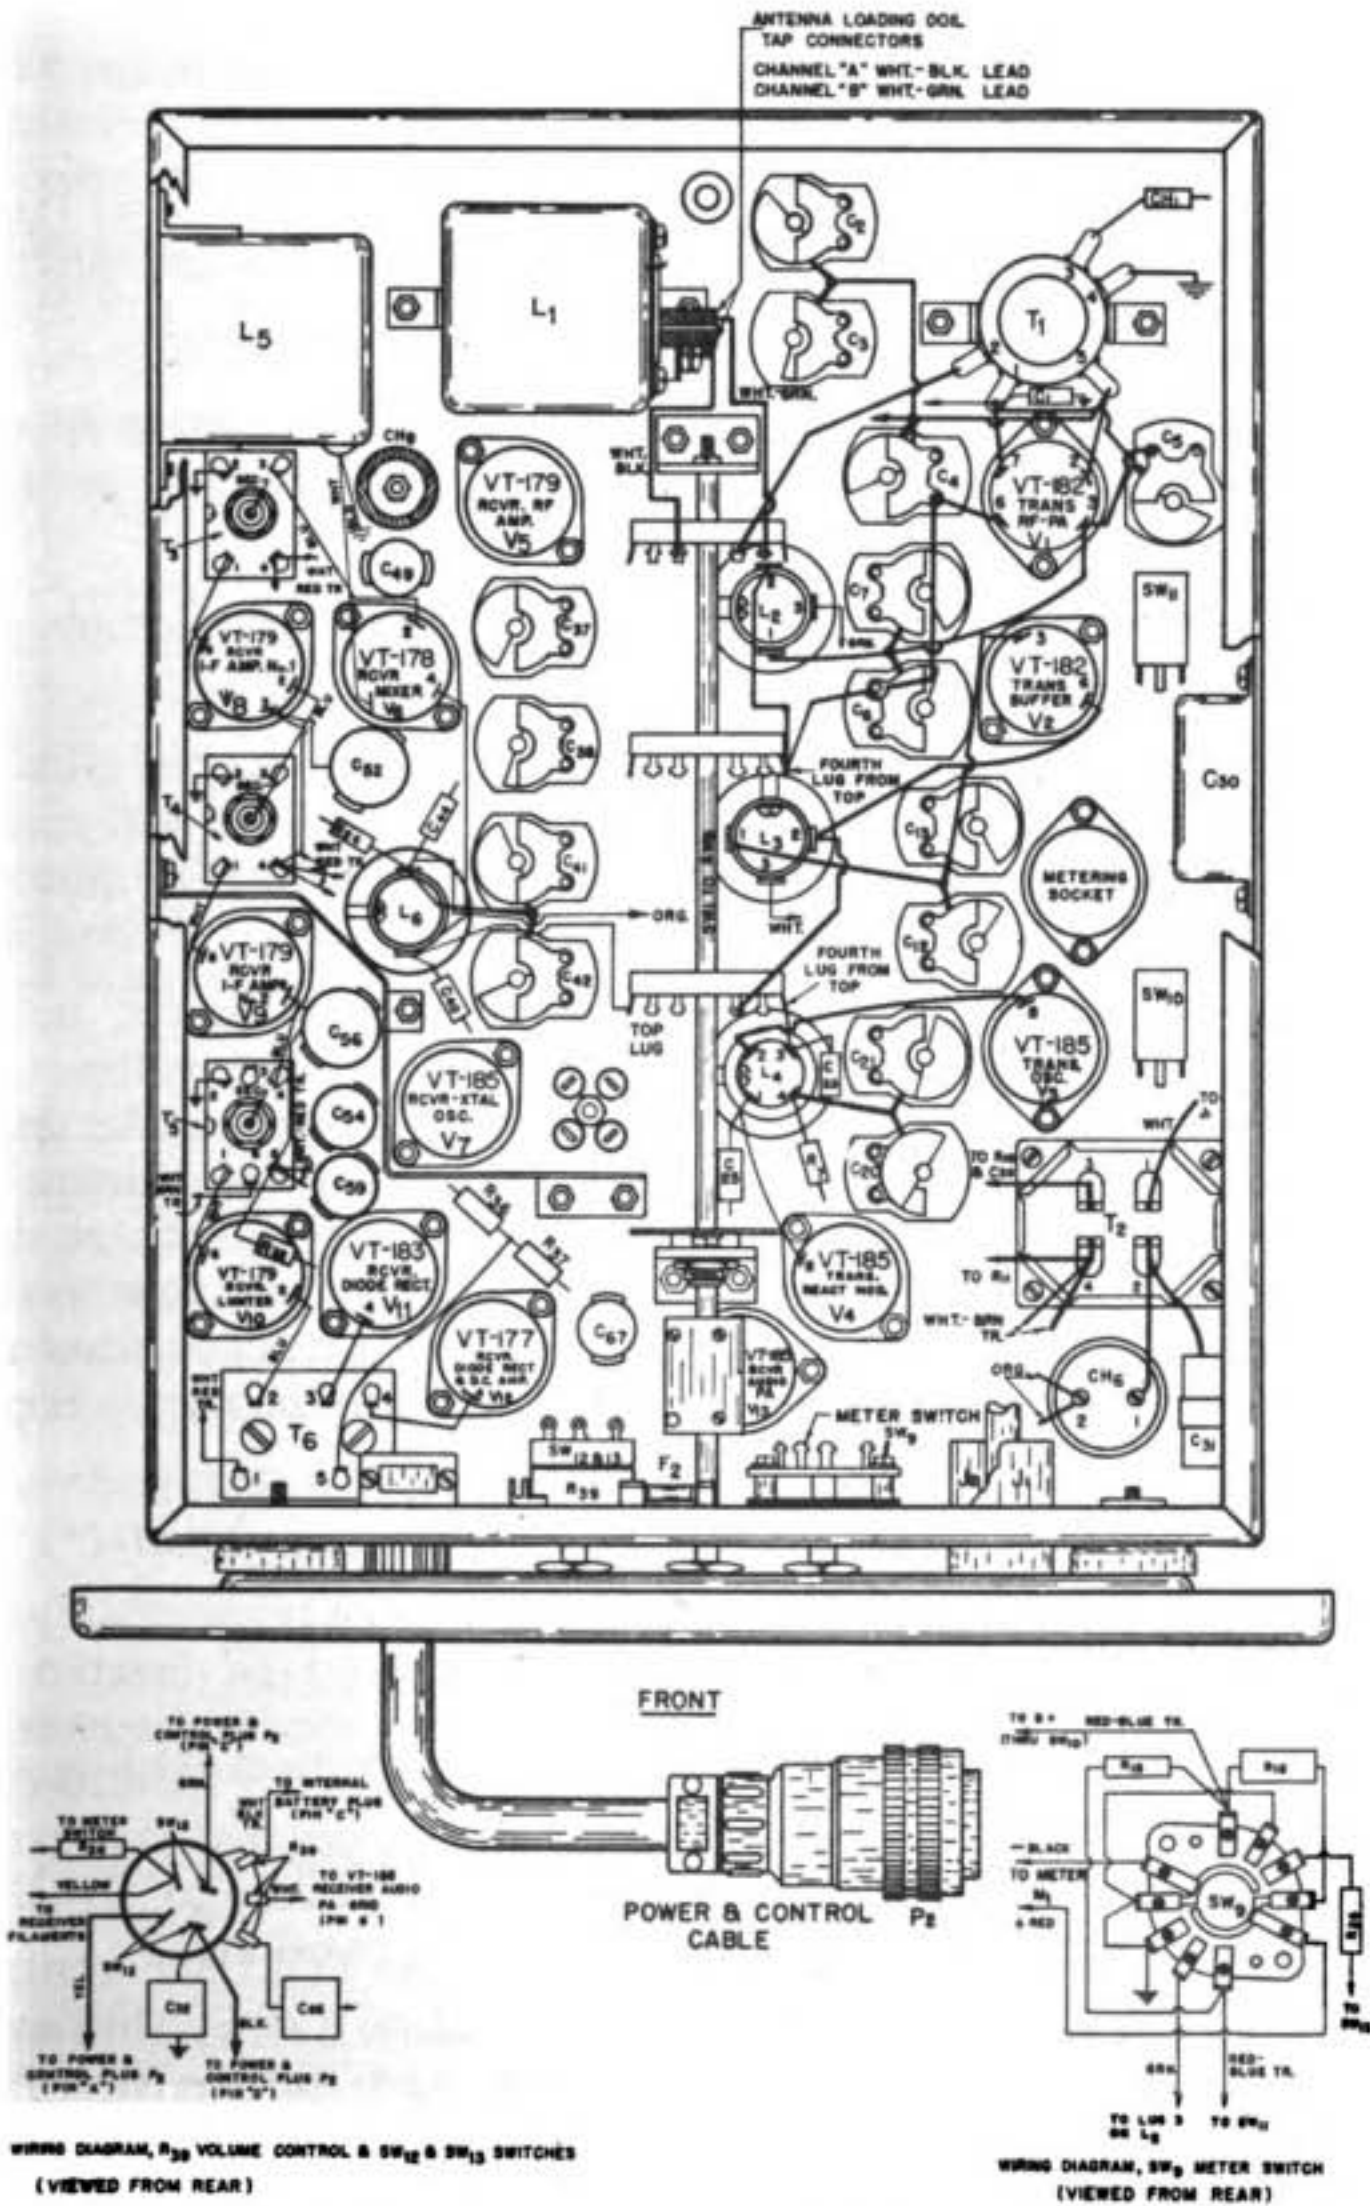

Figure 18. Radio Receiver and Transmitter BC-620-(*), Bottom View of Chassis
(3) Turn Radio Receiver and Transmitter BC-620-(*) on (VOLUME control). Do not connect microphone.
(4) Connect the "hot" lead of Oscillator VO-4-(*) to pin No. 4 of the mixer tube V₆ (VT-178) (Figure 18).
(8) Connect the probe, with a 1-megohm resistor in series, to the junction of R₃₆ and R₃₇ (Figure 18). Adjust T₆ primary for maximum on the voltmeter.
(9) Check secondary of T₆ as in step (7) and readjust to zero if necessary. Discriminator is now aligned.
(10) Turn set off, disconnect test equipment, and replace crystals. Be sure crystals are inserted in the proper channel sockets.
(11) Check presetting adjustments for both channels.
(8) Connect the probe, with a short wire and 1-megohm resistor in series, to the junction of R_{36} and R_{37} (Figure 18). Adjust T_6 primary for minimum on panel meter.
(9) Check secondary of T_6 as in step (7) and readjust to zero volts if necessary. Discriminator is now aligned.
(10) Turn set off, set adapter switch to OFF, and remove 2.88-megacycle crystal. Replace the channel crystals in their proper sockets.